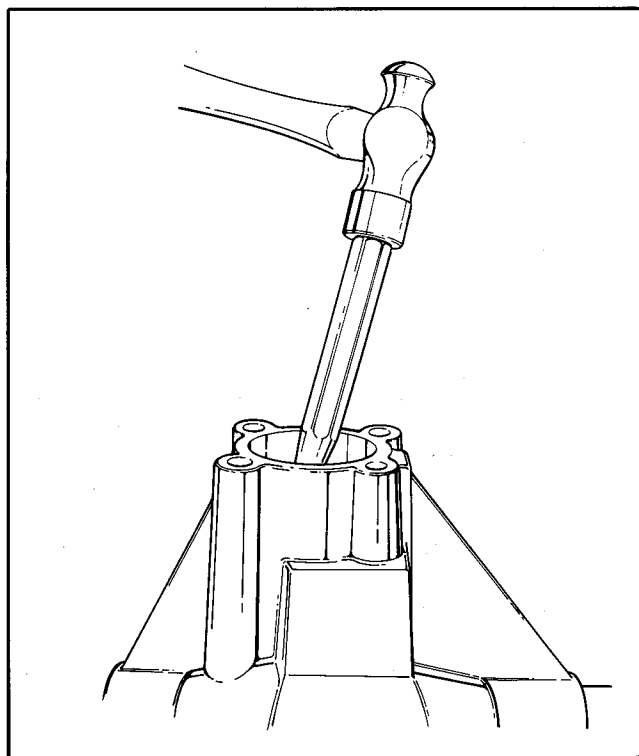

Figure 4-13 – Removing Rear Pinion Bearing Cup
- s. Remove oil slinger (20), pinion shaft (21), sleeve (23), shims (24) and bearing cones (22 and 25). Retain pinion gear preload shims (24) for reassembly.
- t. Rear bearing cup (27) can be driven out with drift. See Figure 4-13. Shims (29) are located between bearing cup (27) and carrier bore. Retain these shims for reassembly. Shims (29) are used to set pinion depth.